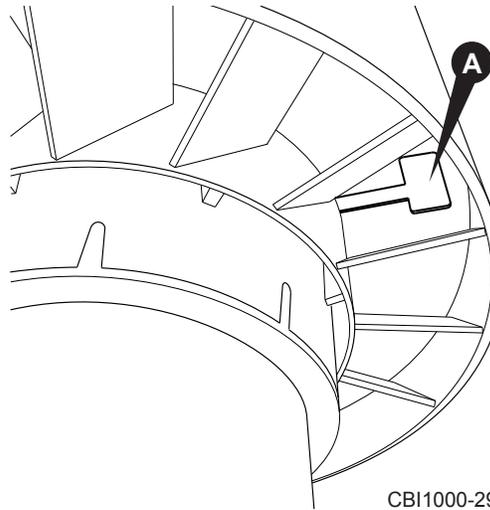

Figure 6.44 - Pre-Cleaner Turbine Blades
2. Inspect Pre-Cleaner - Using a portable work light, look underneath the pre-cleaner; you should be able to see the turbine blades (Figure 6.44 / A) rotating freely in the pre-cleaner housing.